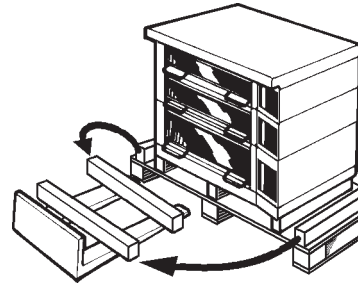

Fig. 14 Lifting of the parts of the oven.
- Use the planks from the loading pallet and place these on the forks of the truck as spacers to protect the oven door (Fig. 14).